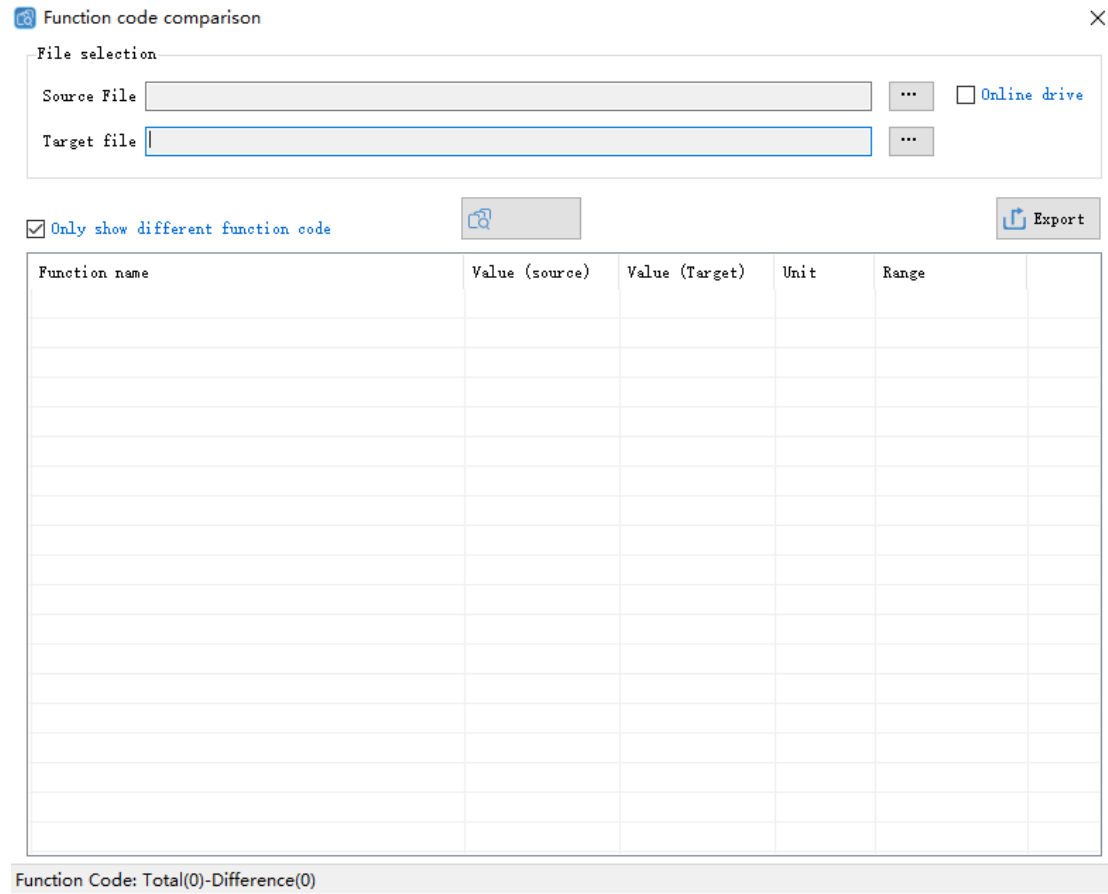

Figure 13
1. Click toolbar icon  , pop-up the dialog box, as shown in figure 13 as below: